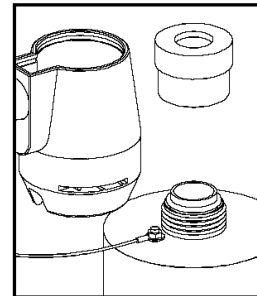

FIGURE 3C
- Clean the sleeve as outlined in Step one, or replace with a new sleeve. Reinstall the quartz sleeve in the reverse order. The Cobalt reactor is designed for easy installation of the quartz sleeve by incorporating a unique sleeve centering guide. To install the sleeve, carefully insert the sleeve into the reactor chamber (do not drop) and push the sleeve until it firmly seats in the end of the reactor centered in the sleeve centering guides (Figure 3c). Install a lubricated (silicone release grease) o-ring (Part number OR-212) onto the sleeve until it is positioned against the chamfered seat (Figure 3d).